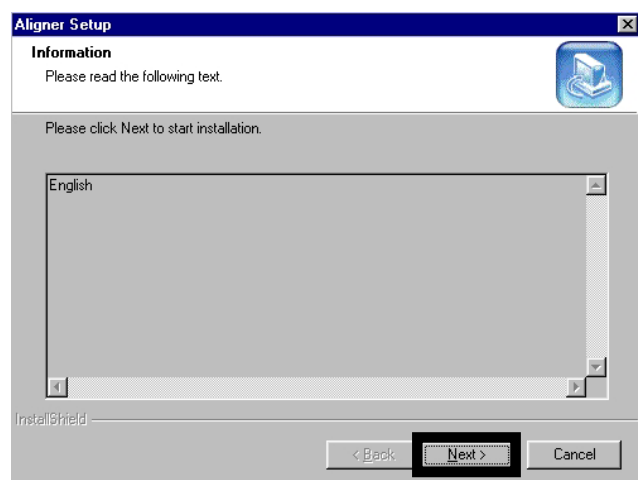

Figure 3-13
11. The aligner confirms the languages that have been chosen. Click on **<NEXT>** to proceed with the installation. If a language is not chosen, the operator can click on **<BACK>** to step back a screen the select additional languages. (Figure 3-13)